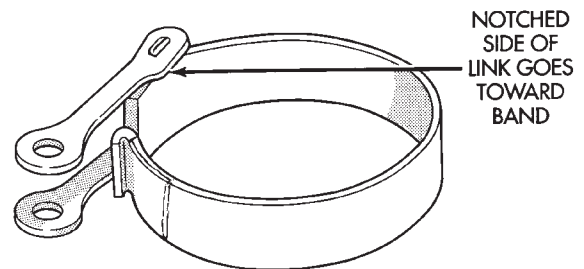

Fig. 89 Rear Band and Link
(32) Separate link from rear band (Fig. 89).
(33) If necessary remove front and rear band servo levers. All transmission components can be serviced without removing the levers.